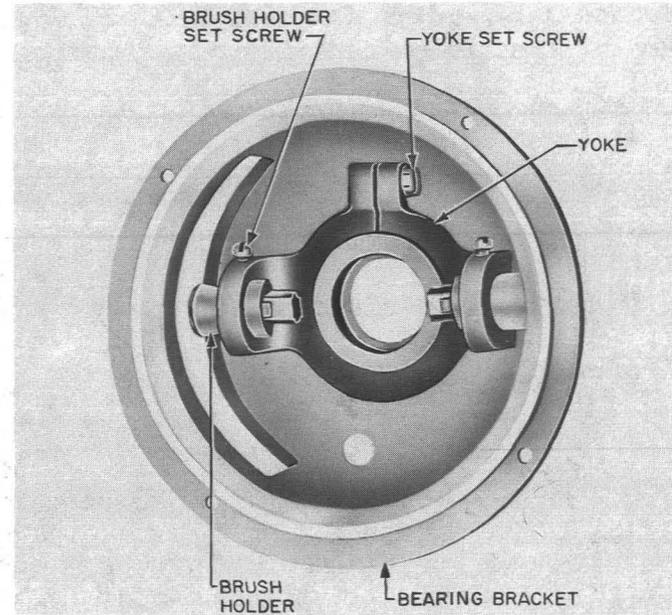

Fig. 5—Adjustable Yoke of Electric Specialty Company Machine
* **2.16 Brush Holders and Yokes (Fig. 5):** The clearance between the commutator and the lower edge of the brush holders shall be
Note: For the purposes of this section, the terms referring to contacts are illustrated in Fig. 5. The timing of the spring contacts is expressed in the figures and text in seconds or in revolutions of the high-speed shaft, the seconds being based on 1200 rpm (20 revolutions equals 1 second).